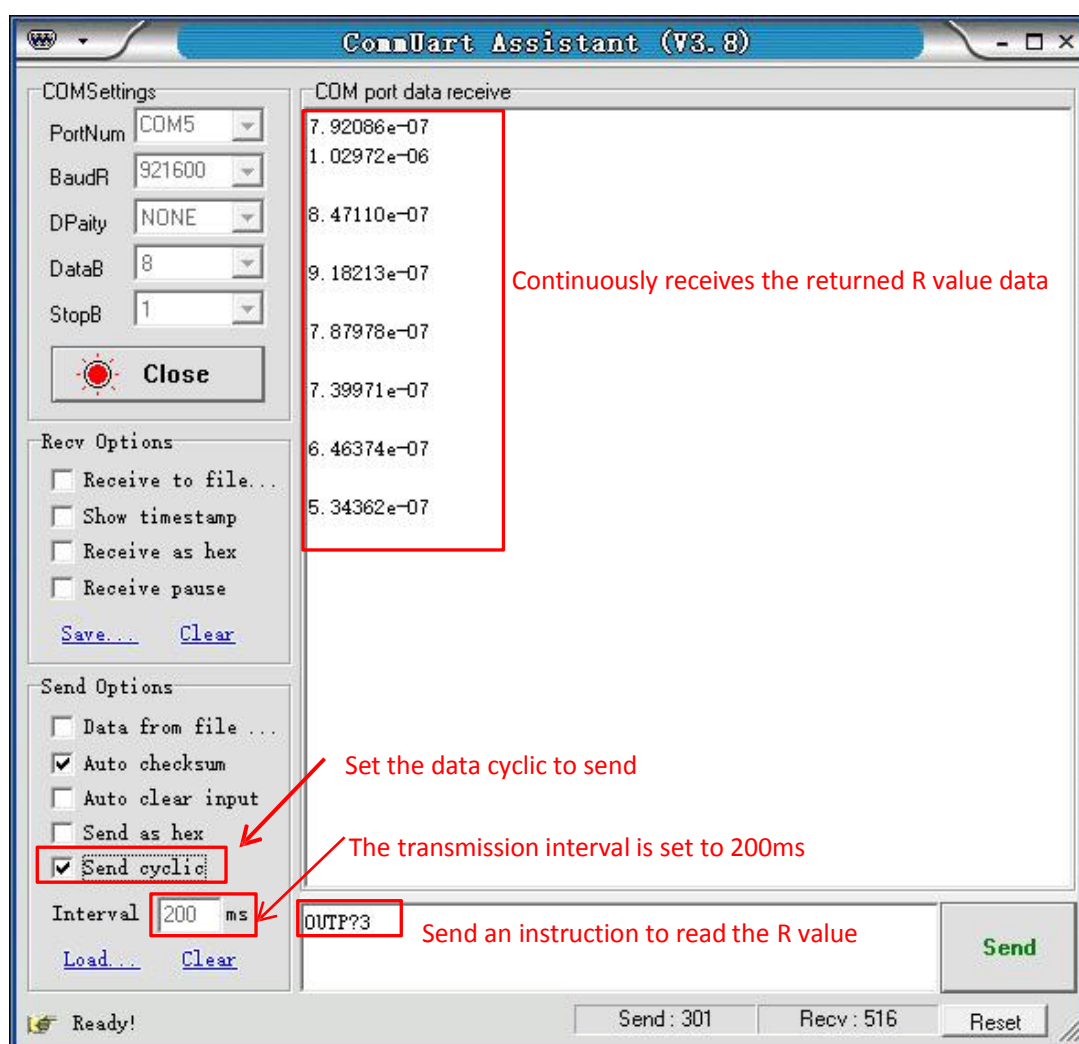

Fig.79 Read the single R value continuously
(4) If you want to read the values of <X>, <Y>, <R>, < $\theta$ > and Freq continuously, you can set the transfer interval time as Fig.79.